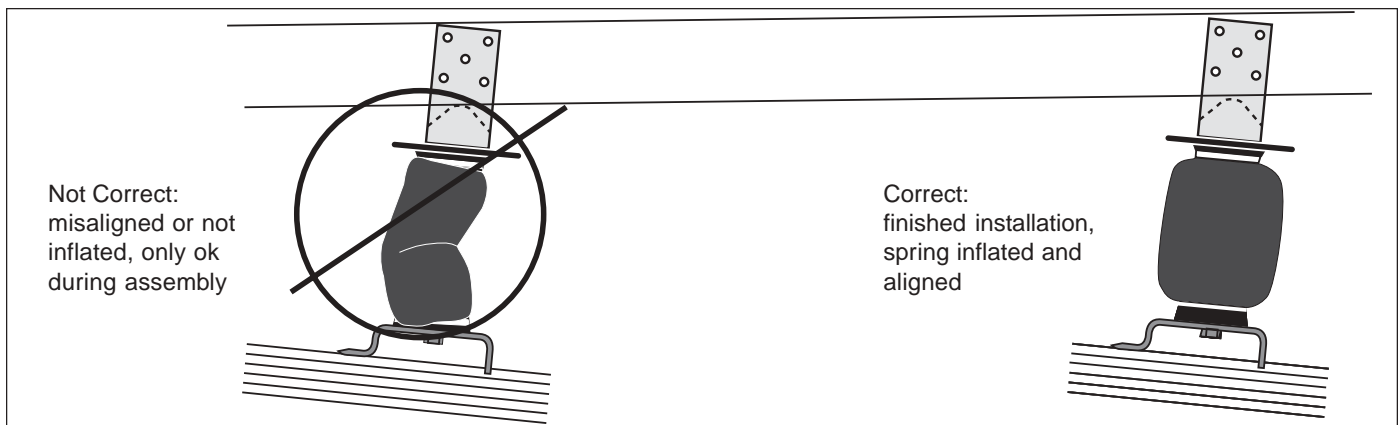

Figure 10
1. **VERY IMPORTANT:** With the bottom of the air spring still loose, inflate the air spring to approximately 10 p.s.i. By using the slot in the lower bracket for adjustment, center the sleeve so that it is in line with the upper and lower bracket and that there is a symmetrical cushion of air around the lower base of the sleeve to prevent side load wear (Figure 10). This can be accomplished by pressing all around the air spring and tapping it inboard or outboard for proper alignment. Air spring diameter grows to 5.1" at maximum inflation. Check to be sure there is clearance all around the air spring when fully inflated.